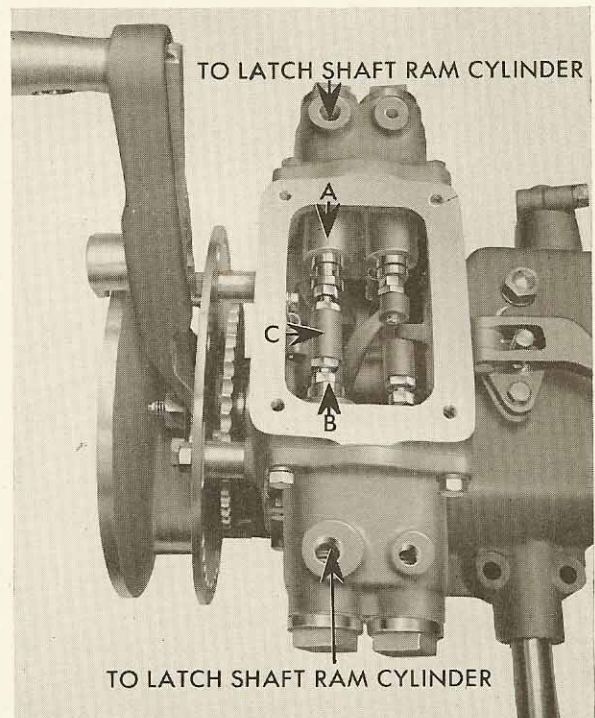

FIGURE 5-14
Figure 5-14 shows the control unit with all of the tubing and some of the parts removed to simplify the illustration. The pilot valve (A) rotates the latch shaft to the ahead position and the valve (B) locates the shaft in the astern position. The lever (C) moves against
Pilot valve (B) Figure 5-14, is identical with the one just described but is connected to the opposite end of the latch shaft cylinder. As the lever was moved toward valve (A) Figure 5-14, the spring behind the vent valve in pilot valve (B) caused the vent valve to follow the motion of the lever. It will be seen that the holes in the vent valve would be exposed during this movement. Therefore, the end of the latch cylinder towards which the piston was traveling would be vented to the atmosphere.
When the latch shaft ram is moved into the reverse position the control lever is moved in the opposite direction and the action of valves (A) and (B) Figure 5-14, are just reversed. Valve (B) becomes the one which admits air to the latch cylinder and valve (A) now acts as the vent for its end of the cylinder.